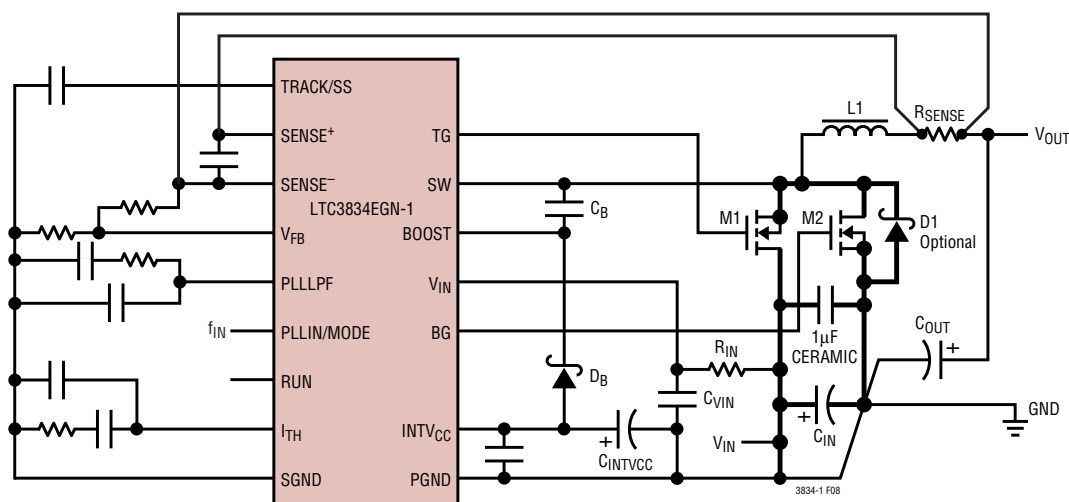
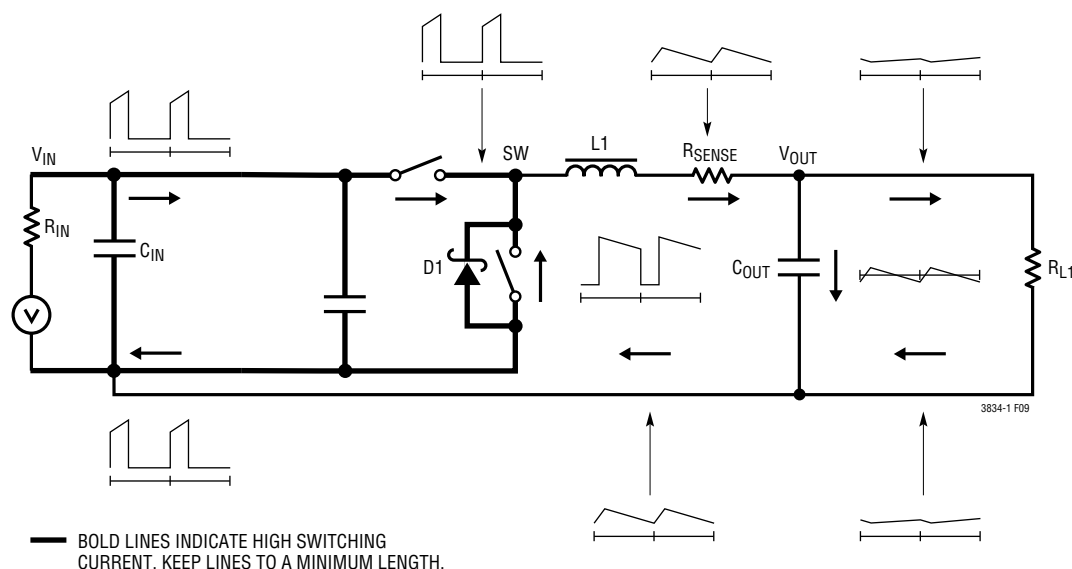

Figure 8. LTC3834-1 Recommended Printed Circuit Layout Diagram
Figure 9. Branch Current Waveforms
When laying out the printed circuit board, the following checklist should be used to ensure proper operation of the IC. These items are also illustrated graphically in the layout diagram of Figure 8. The Figure 9 illustrates the current waveforms present in the various branches of the synchronous regulator operating in the continuous mode. Check the following in your layout:
- When laying out the printed circuit board, the following checklist should be used to ensure proper operation of the IC. These items are also illustrated graphically in the layout diagram of Figure 8. The Figure 9 illustrates the current waveforms present in the various branches of the synchronous regulator operating in the continuous mode. Check the following in your layout:
6. Keep the switching node (SW), top gate node (TG), and boost node (BOOST) away from sensitive small-signal nodes, especially from the opposites channel's voltage and current sensing feedback pins. All of these nodes have very large and fast moving signals and therefore should be kept on the "output side" of the LTC3834-1 and occupy minimum PC trace area.